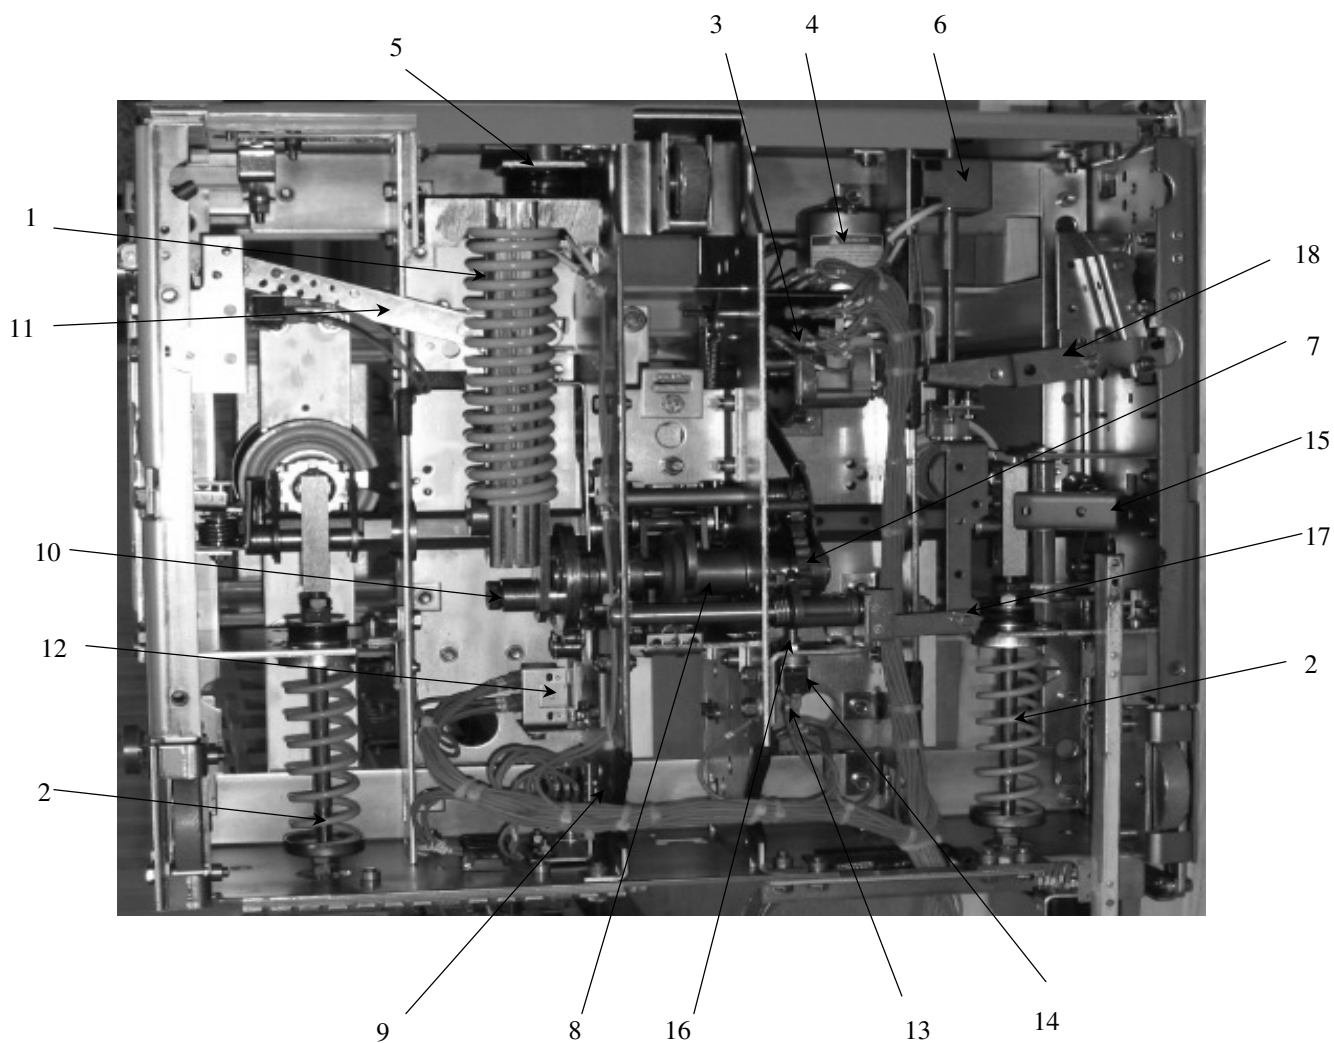

Figure 23 Bottom view of ML-18 mechanism
All PowerVac® circuit breakers with ML-18 mechanisms and a type designation ending in -0, -1 & -2 have an adjustment bolt for the close latch. The adjustment for the close latch stop bolt item (item 16, Figure 23) is made with the breaker open and the closing spring charged.